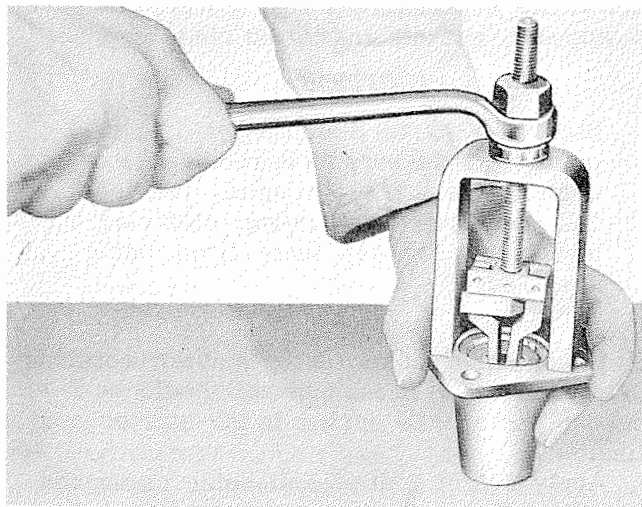

Figure 7-83. Pulling Fuel Pump Drive Shaft Oil Seal
- c. Remove the oil seal from the support using puller 801534. See figure 7-83.